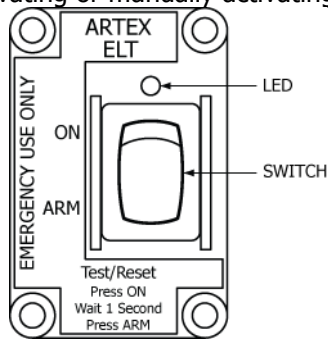

Figure 3 Remote Switch Front View
- 2) The cockpit-mounted remote switch assembly is comprised of an ELT status LED and control switch and allows an operator to manually turn the ELT on (i.e., activate) for testing and reset (i.e., deactivate) the ELT. See Figure 3.